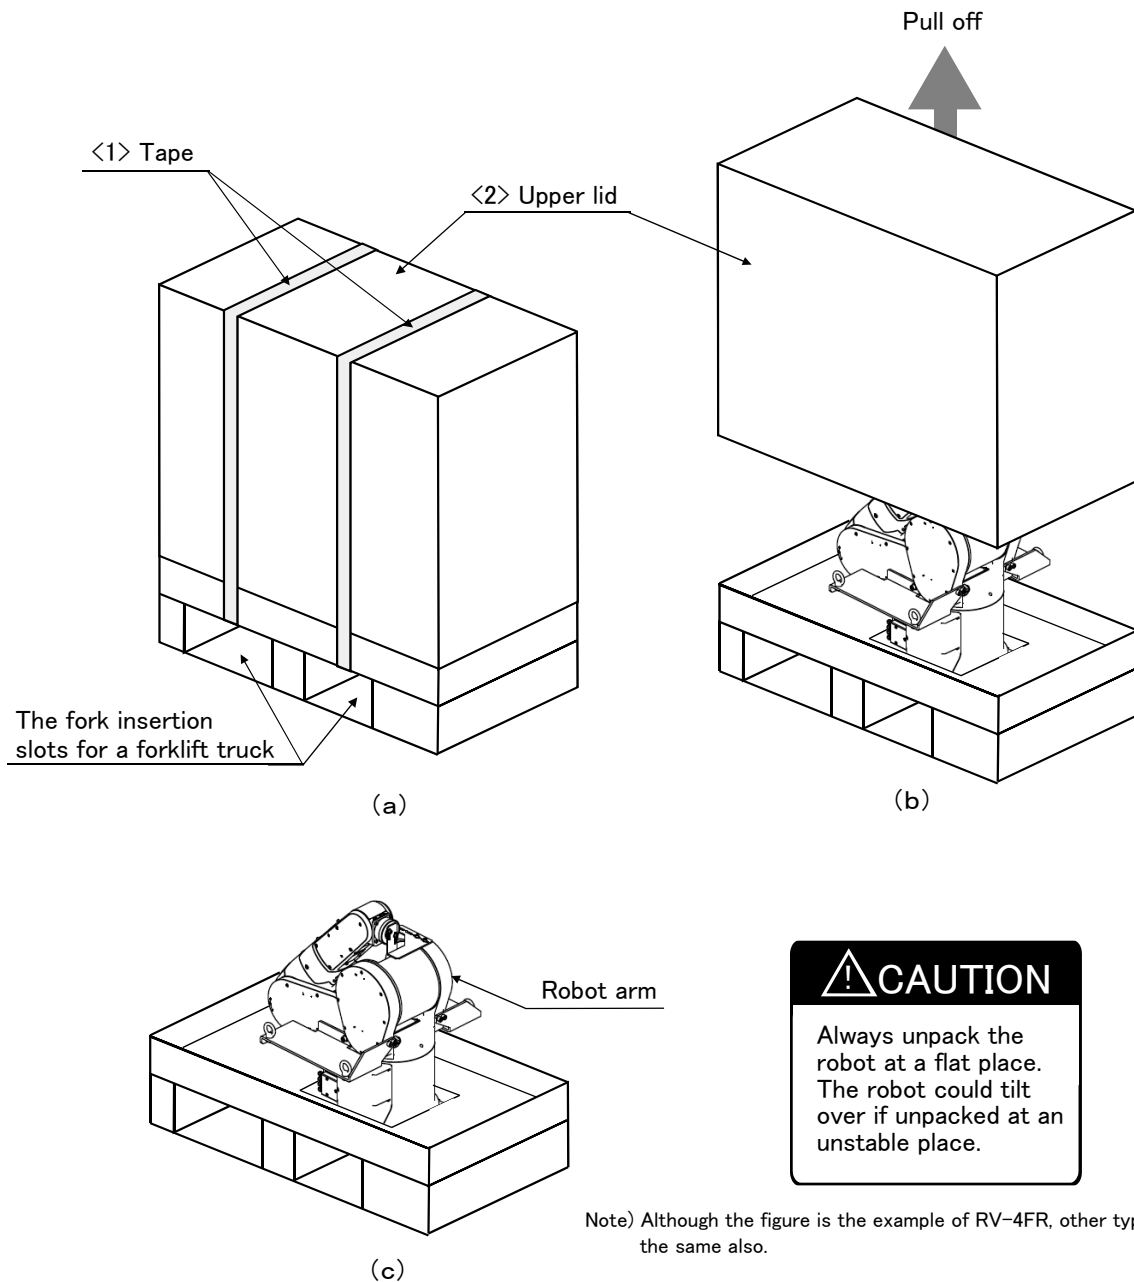

Fig.2-3 : Unpacking the robot arm (RV-4FR/7FR/13FR series)
The robot is shipped from the factory in cardboard and plywood packing. Always refer to Fig. 2-3 and unpack the robot.
- 1) Using a knife, etc., slit the tape <1> fixing the upper lid <2> of the cardboard box. (Fig. 2-3 (a))
- 2) Pull the upper lid <2> of the cardboard box off with both hands. (Fig. 2-3 (b))
- 3) Remove the hexagon socket bolts <3> (four positions) connecting the sleeper and the base unit. (Fig. 2-3 (c))